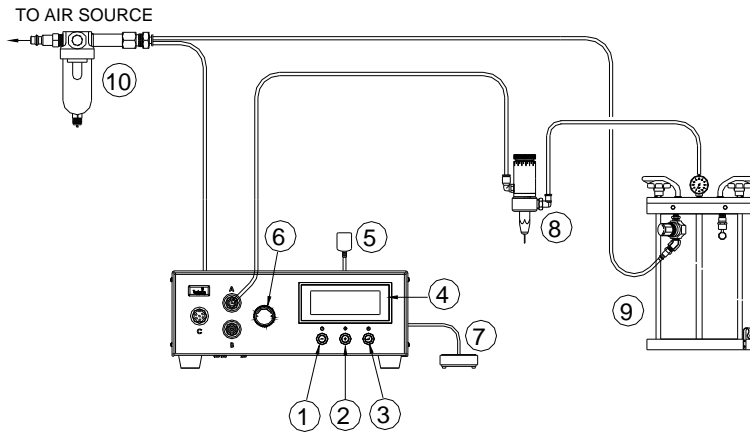

Figure 2.0
5.1.1 Connecting The Unit: (Refer to Figure 2.0)